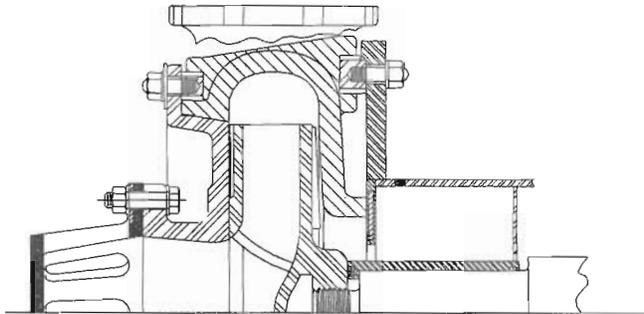

Figure 8. LCV Hard Metal Wet End
1.) Hard Metal. (Figure 8). Single-wall casing, impeller and suction liner of high-chrome white iron. Suitable for high-discharge head, all particle sizes up to maximum sphere passage and mildly corrosive slurries. Custom materials available for highly corrosive slurries.